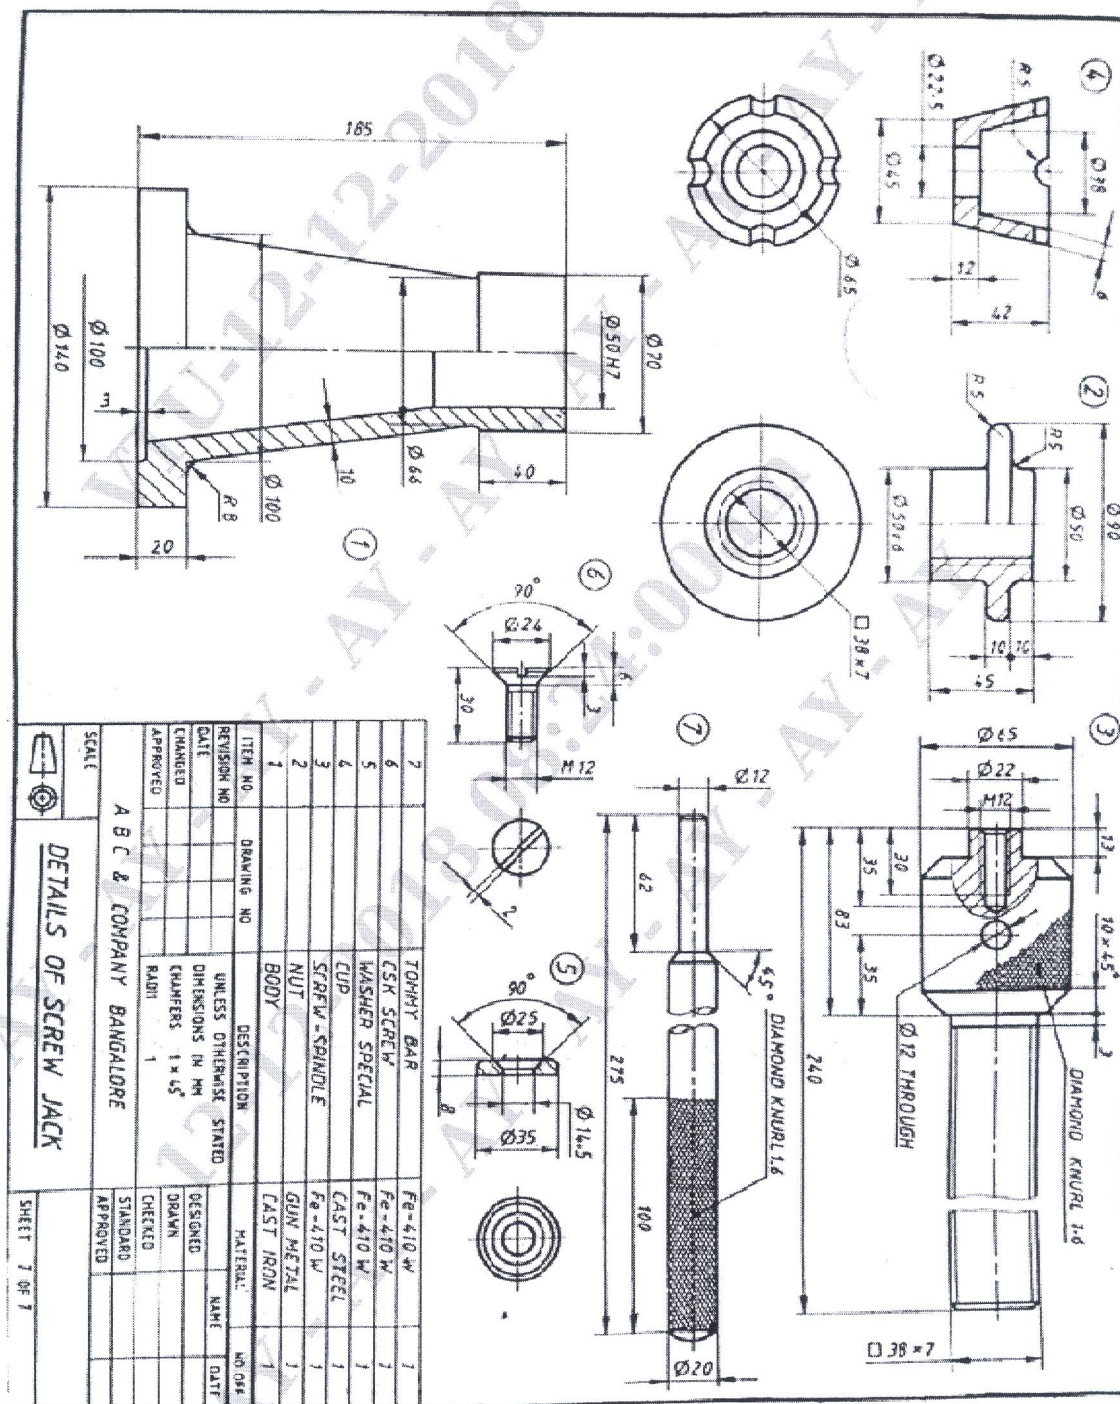

Figure 2 : Details of a Screw Jack
- Q.No.5** Figure 2 shows the details of a “SCREW JACK”. Assemble the parts and show the following views.